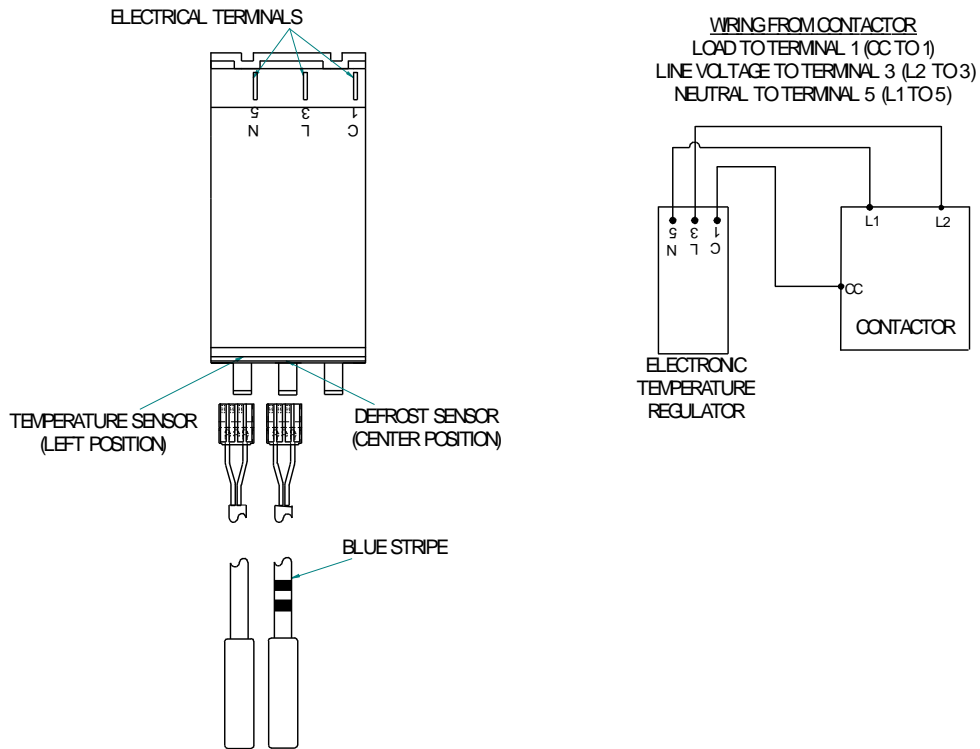

Figure 3.
5. Disconnect the three electrical wires from the temperature controller terminals. Disconnect the room sensor from the thermostat for re-use (See Figure 3). The defrost sensor can be left connected.
6. Connect defrost and room sensors to the temperature controller. Controller will not function properly if the sensors are connected incorrectly. Refer to Figure 3 below.
7. Wire the new controller to the compressor contactor. Note that the new controller may be wired differently than your existing control. Refer to Figure 3 below.